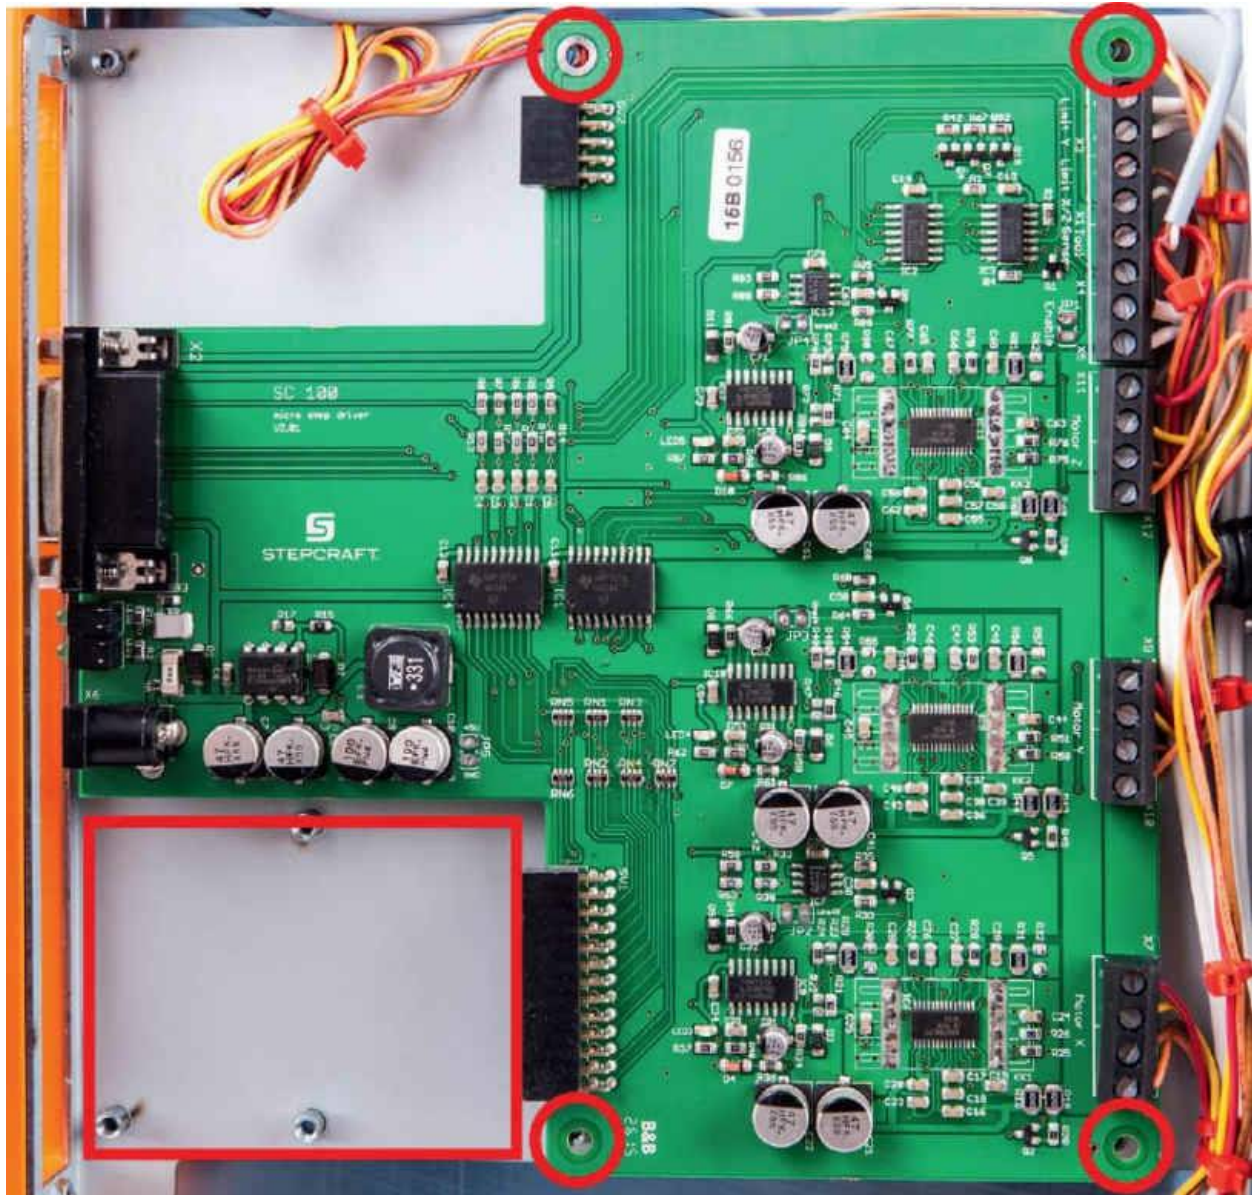

Fig. 2.97 *The slot for the LPT connector and the bolts holding the control unit*
5. The red outlines in figure 2.97 show the slot for the LPT interface board and the four bolts holding the control unit. To install the board, insert the socket end through the opening in the machine's rear panel, and then push the pins all the way into the connector in the control unit.